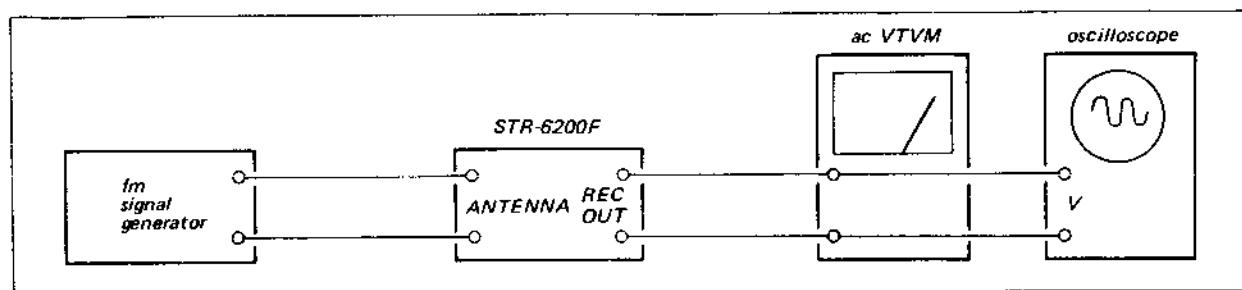

Fig. 3-4 Fm i-f, discriminator, muting and front end alignment test setup
1. With the equipment connected as shown in Fig. 3-4, set the signal-generator's controls as follows:
3. Connect the equipment as shown in Fig. 3-4.